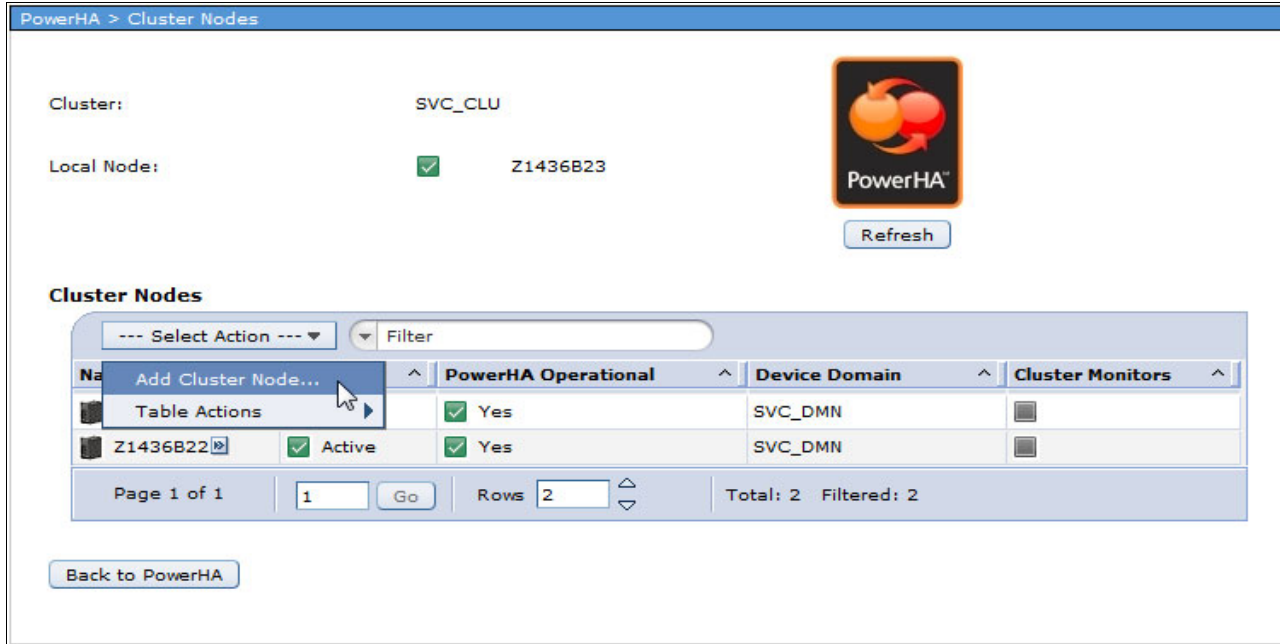

Figure 4-42 Adding a cluster node to create a three-node cluster
2. In the PowerHA Cluster Nodes window, select **Add Cluster Node** from the Select Action pull-down menu, as shown in Figure 4-42 on page 138.